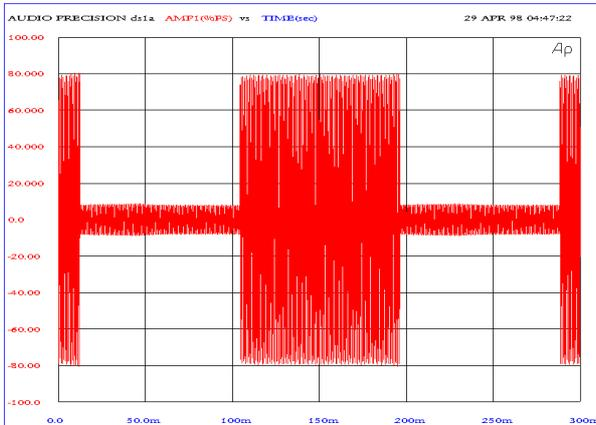
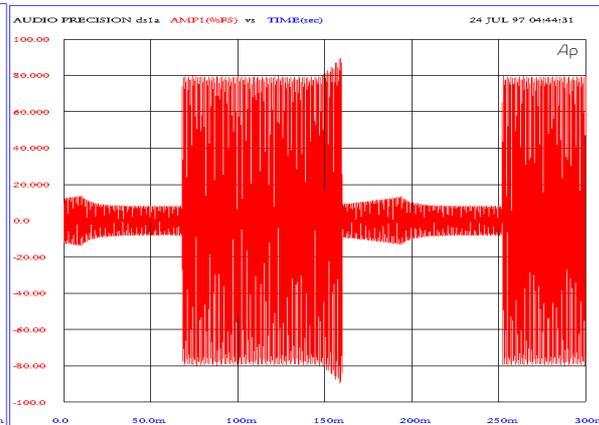
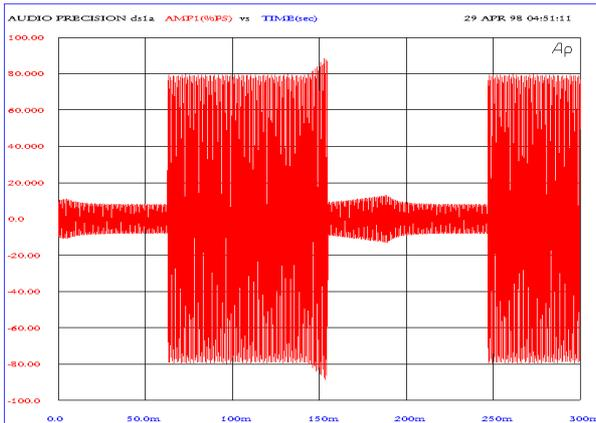
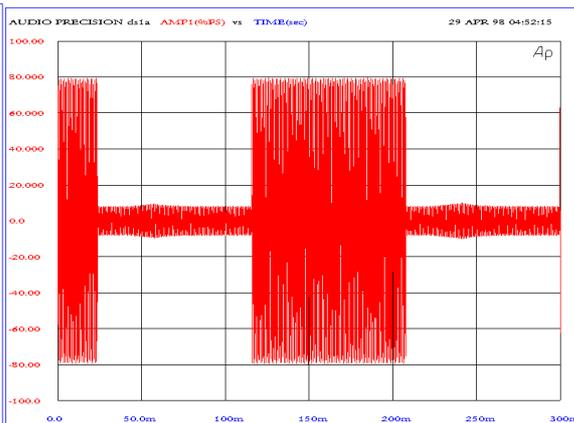

Fig. 3
Fig. 4
Fig. 5
Fig. 6
**Fig. 3** The preview time is now about three times the attack time, which gives the sidechain a headstart on the audio signal. The result is a proper limiting without overshoot.
**Fig. 4** As useful the preview facility in Fig 3 is, it can have an unwanted effect at the release portion. A relatively short release time causes the release to show up during the last milliseconds of the burst. This because the sidechain "sees" the "burst off" before the gain stage sees it (preview delay), so the end of the burst gets influenced by the release.
**Figs. 5 and 6** The effect described in Fig. 4 can be eliminated with the Release Delay parameter. The release is delayed for a certain time and thus can not influence the end of the burst anymore. In Fig 5 the release delay is not quite long enough, while in Fig. 6 there is no release influence visible anymore.